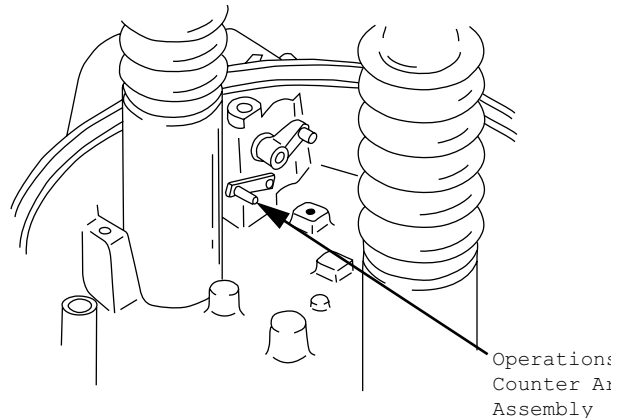

Figure 8. Operation counter operator arm placement.
2. Carefully remove roll pin from counter lever arm and discard, see Figure 8. In order to remove roll pin, it may be necessary to remove the counter lever arm assembly. Before the counter lever arm assembly can be removed, the operating handle and lever assembly must be removed. Carefully drive roll pin out and pull lever from operating handle assembly.